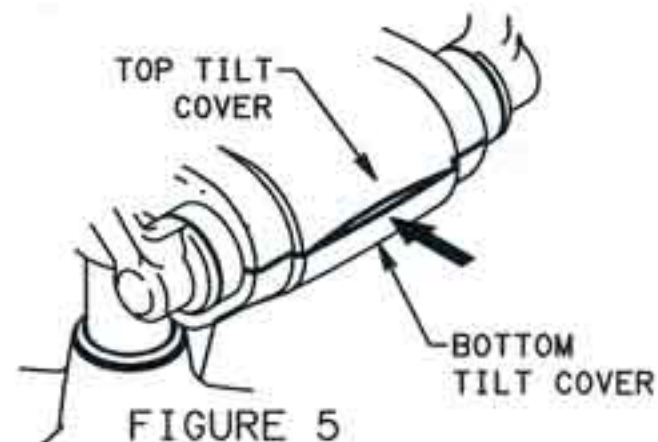

FIGURE 5
3. APPLY THUMB PRESSURE ON FRONT OF BOTTOM TILT COVER TO START SEPARATION OF TILT COVERS. INSERT 1" PUTTY KNIFE BETWEEN TOP AND BOTTOM COVERS AND TWIST TO COMPLETELY SEPARATE TILT COVERS. SET TOP TILT COVER ASIDE. SEE FIGURES 5 & 6.